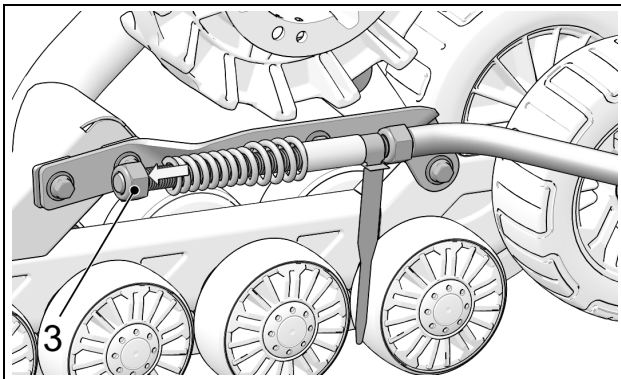

Figure 11
- Loosen nut (3) compressing stabilizing rod spring. See Figure 11.